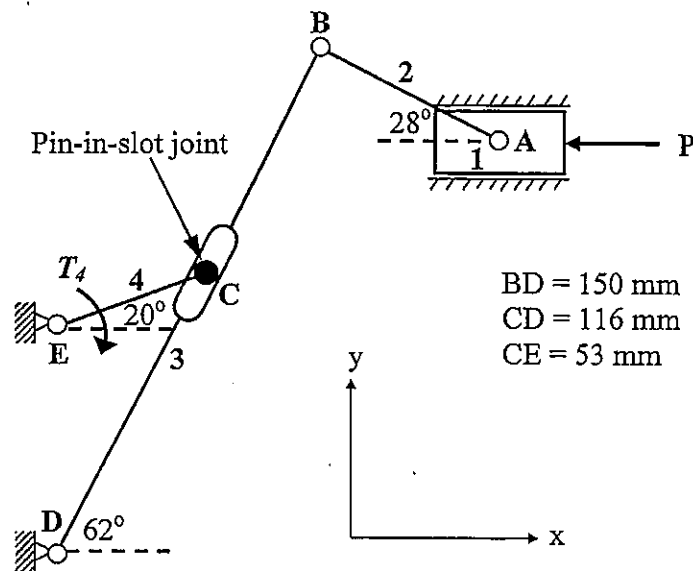

Figure 5
- (b) Figure 5 shows a planar mechanism in static equilibrium with $P = 10 \text{ N}$. Neglecting frictional and gravitational forces, calculate